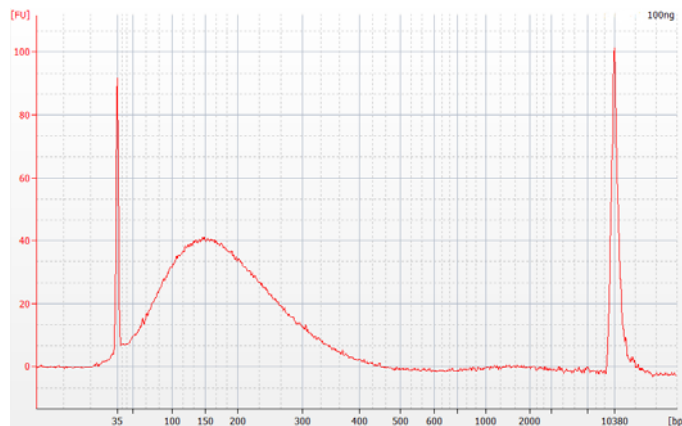

Figure 4 Analysis of 100 ng sheared DNA sample using a High-Sensitivity DNA Bioanalyzer assay.
- 4 Check that the electropherogram shows an average DNA fragment size of 150 to 200 bp. A sample electropherogram is shown in Figure 4.